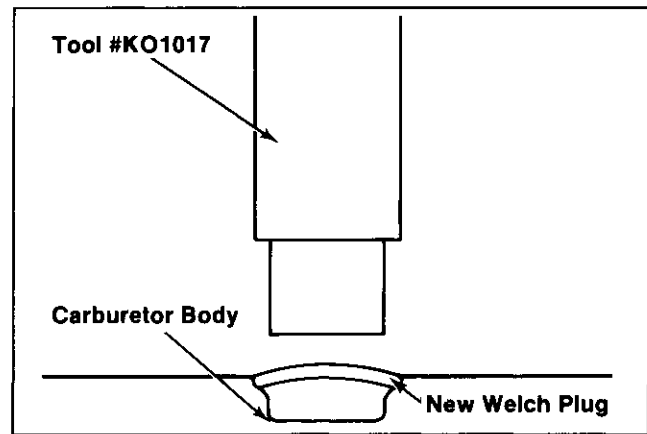

**Figure 6-28. Installing Choke Lever/Shaft.**
- Compress the detent ball and spring. Insert the choke lever/shaft assembly into carburetor body with the cutout portion of shaft facing the air cleaner mounting surface (refer to Figure 6-28). Make sure the choke lever is on the correct side of carburetor body.